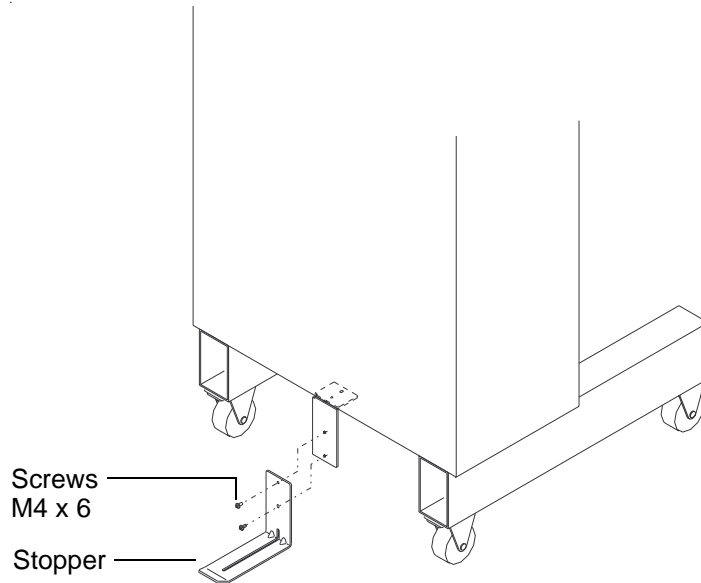

Figure 5 Attaching the stopper
Step 1 Use the two screws (M4 x 6) to attach the stopper to the lower rear of the HCO. See Figure 5.